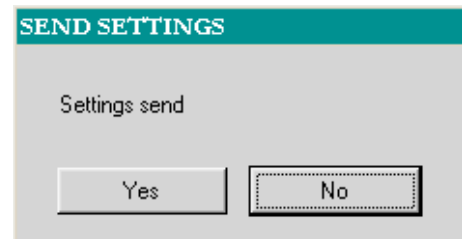

Figure 5.27: Confirmation for Sending Settings.
- Clicking on **Send** prompts a message like the one in figure 5.27 for you to confirm that you want to send the settings to the Central Unit. Then you are returned to the general menu.
- Modify the switch time (in seconds) for the high voltage (HV) automatic control. The range of valid values is from 0 – 10 seconds, with *5 seconds* being the default value. The step is 0.1 second.
- Modify the switch time for the medium voltage (MV) automatic control. The range of valid values is from 0 - 10 seconds, with *5 seconds* being the default value. The step is 0.1 second.
- After the necessary settings have been made to the H/Y automatic control, click on the *Send* button. This brings up a confirmation message like the one in figure 5.27. Clicking on Yes will send the settings to the Central Unit.